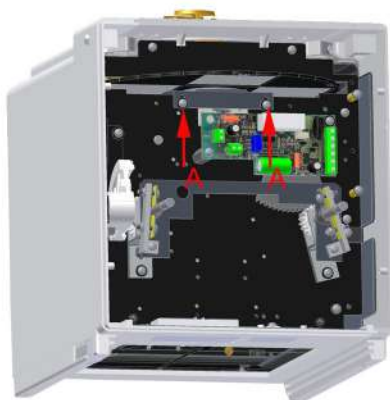
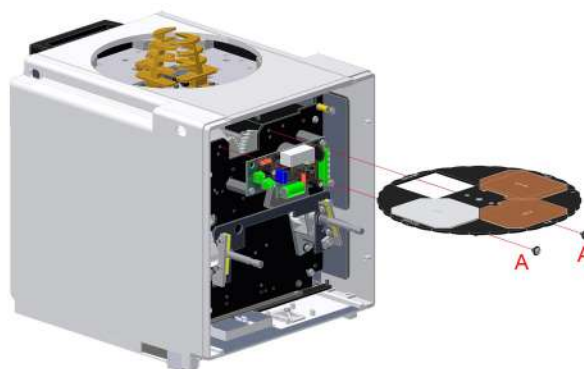

Fig. 3
Fig. 4
- Unscrew the 2 screws **A** holding the filter system on the front plate, see **Fig. 3** and **Fig. 4**.